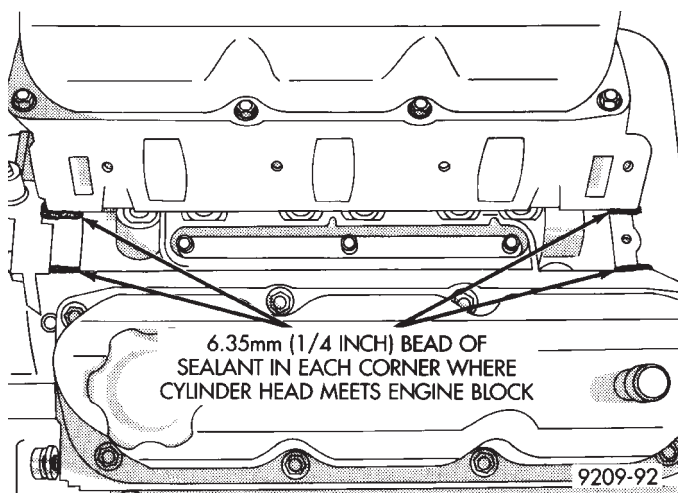

Fig. 12 Intake Manifold Gasket Sealing
(1) Clean all surfaces of cylinder block and cylinder heads.
(2) Place a drop (about 1/4 in. diameter) of Mopar Silicone Rubber Adhesive Sealant or equivalent, onto each of the **four** manifold to cylinder head gasket corners (Fig. 12).